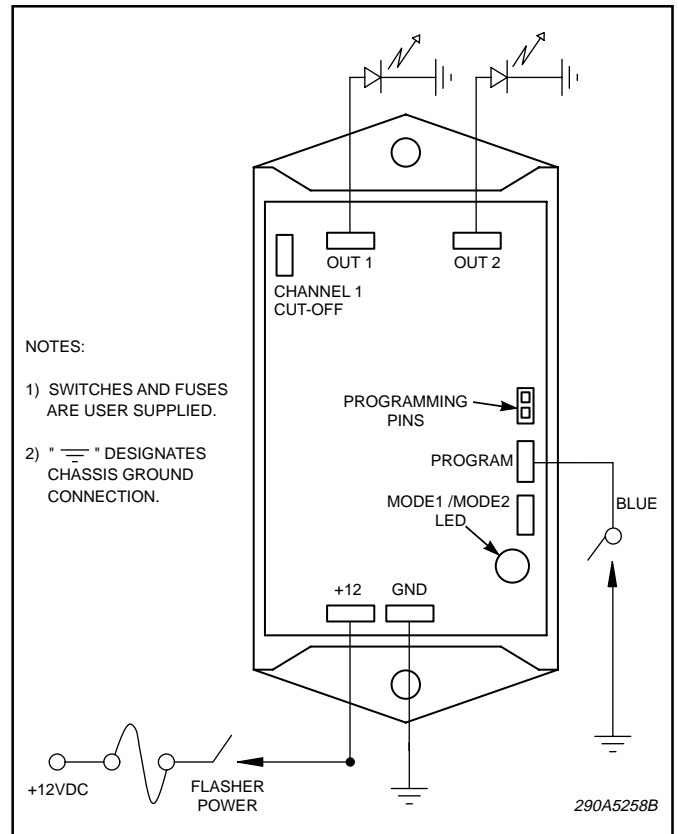

Figure 1.
E. *Flasher Programming (see figure 1).*
The red/green LED as indicated in figure 1 will be illuminated green when an SAE approved flash pattern is selected. When an unapproved SAE flash pattern is selected, the LED will be illuminated red. The red/green LED may alternate between red and green for several flash patterns.